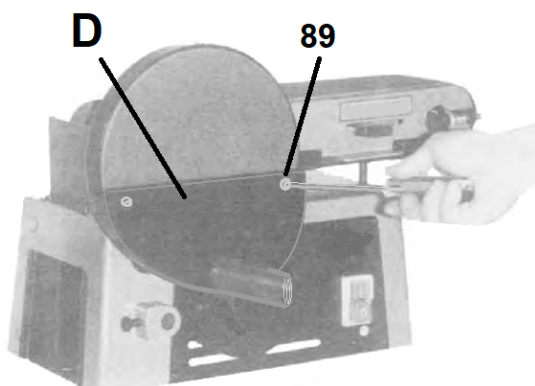

Figure 6-4: Mounting lower sanding disc guard
Attach the lower sanding disc guard (D, Fig. 6-4) with 2 screws (89).
Remove the lower disc guard (D, Abb. 6-4).